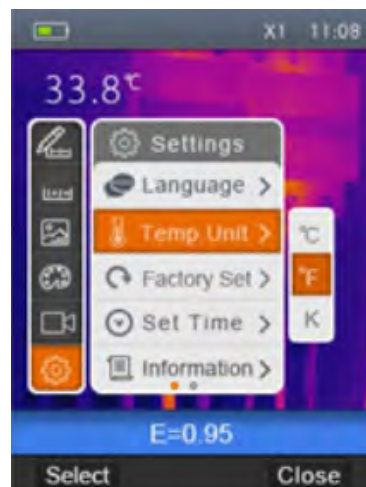

Fig. 9: Setting the temperature measuring unit
1. Select the item “Temp Unit” with the keys \oplus or \ominus and press the key ☰ . The screen Fig. 9 is shown on the display.